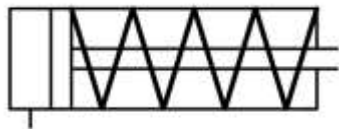
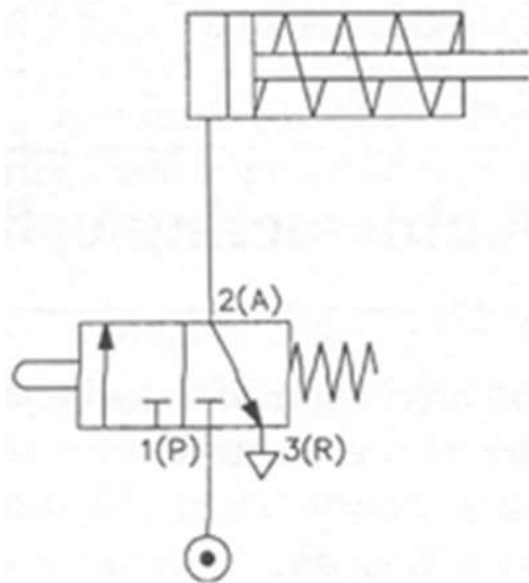

Figure A.1. Symbol for single acting cylinder with spring return.
Figure A.2. Valve control of a single acting cylinder with spring return.
1. Single acting cylinders – air input induces a force in one direction only, the return is caused by a fitted spring when the air pressure is stopped. The pneumatic symbol for this is shown in Figure A.1 with further details shown in Figure A.2.